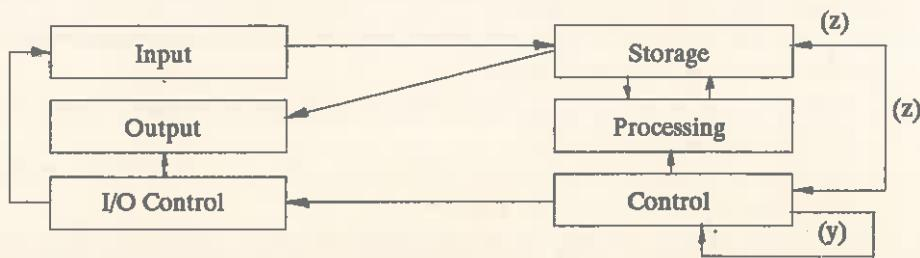

Fig. 36.5. Computer organisation.
- (1) In obtaining and preparing data,
- (2) For operating the computer,
- (3) For distributing output from processing,
- (4) For initiating new programs etc.
- Fig. 36.5 shows the basic arrangement for computer organisation.
- 3. The control unit has the power to change the sequence of instructions it gives to different units of the computer organisation. This is achieved by adding a further line of communication (y) in the circuit (Fig 36.5).